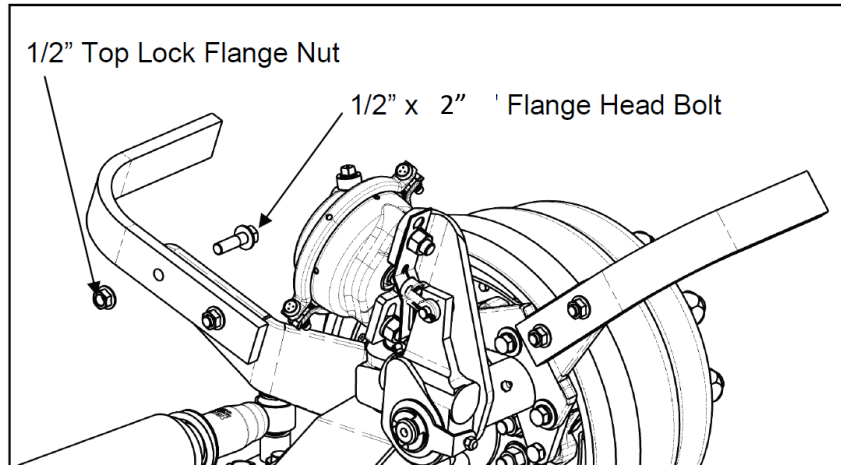

Figure 12 - Fasten aluminum arms
17. Bolt the aluminum arms to the steel fender brackets using the 1/2" x 2" flange head bolts and the 1/2" top lock flange nuts as shown in Figure 12.